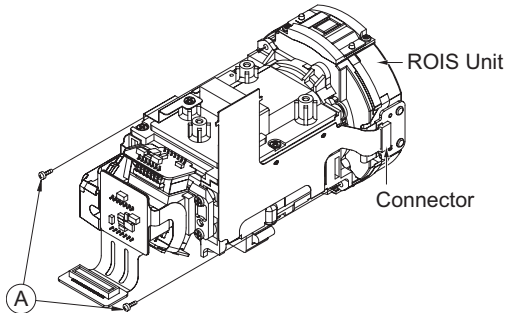
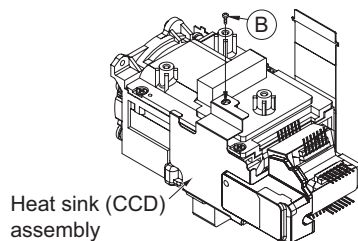
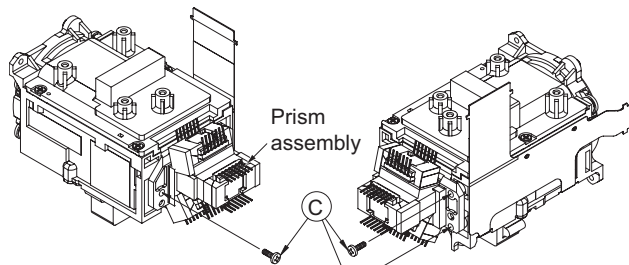
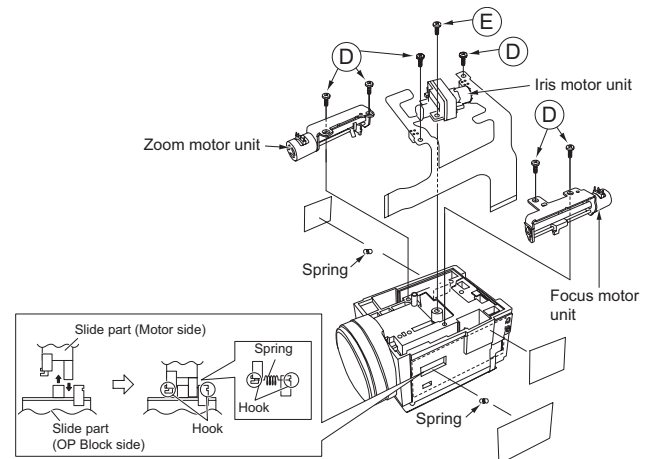

Fig.34
Fig.35
Fig.36
Fig.37
3.8 Removing the OP block assembly (See Figure 34, Figure 35, Figure 36, Figure 37)